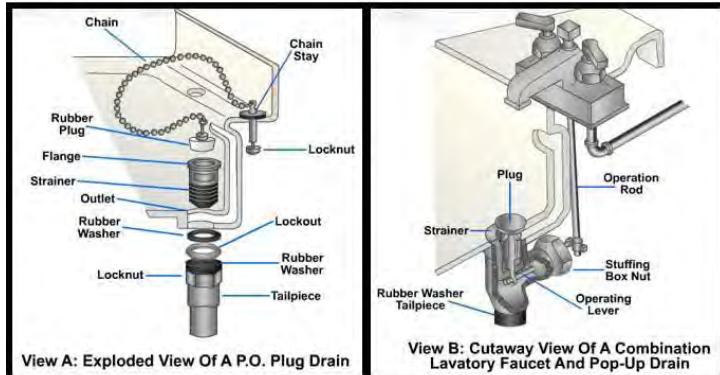

Figure 14 — Lavatory drains.
4. Install the permanent opening (P.O.) plug drain, as shown in *Figure 14, View A*, or the pop-up type of drain, as shown in *Figure 14, View B*.